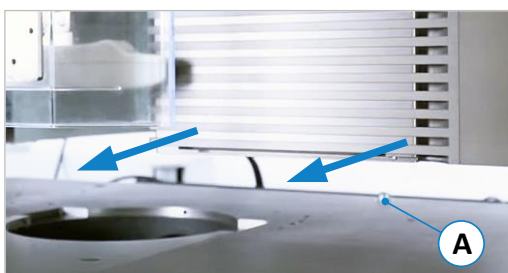

Figure 25: Move centrally over milling spindle
- Move the fence over the machine table with the help of a second person, with a suitable hoist or with the optional Swivel-away device so that it is approximately centred over the milling spindle (see ⇒ Figure 25).